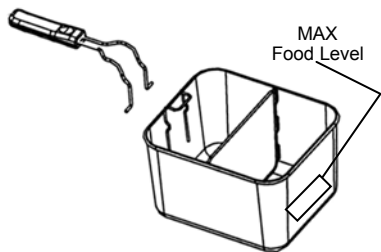

Fig. 1
- **Always** use basket handle to remove the frying basket. Always make sure the basket handle is securely attached to the basket. To attach the handle to the frying basket, pinch the handle ends together to fit into the metal bracket on the frying basket. Pull handle towards you to lock into place. (Fig. 1)